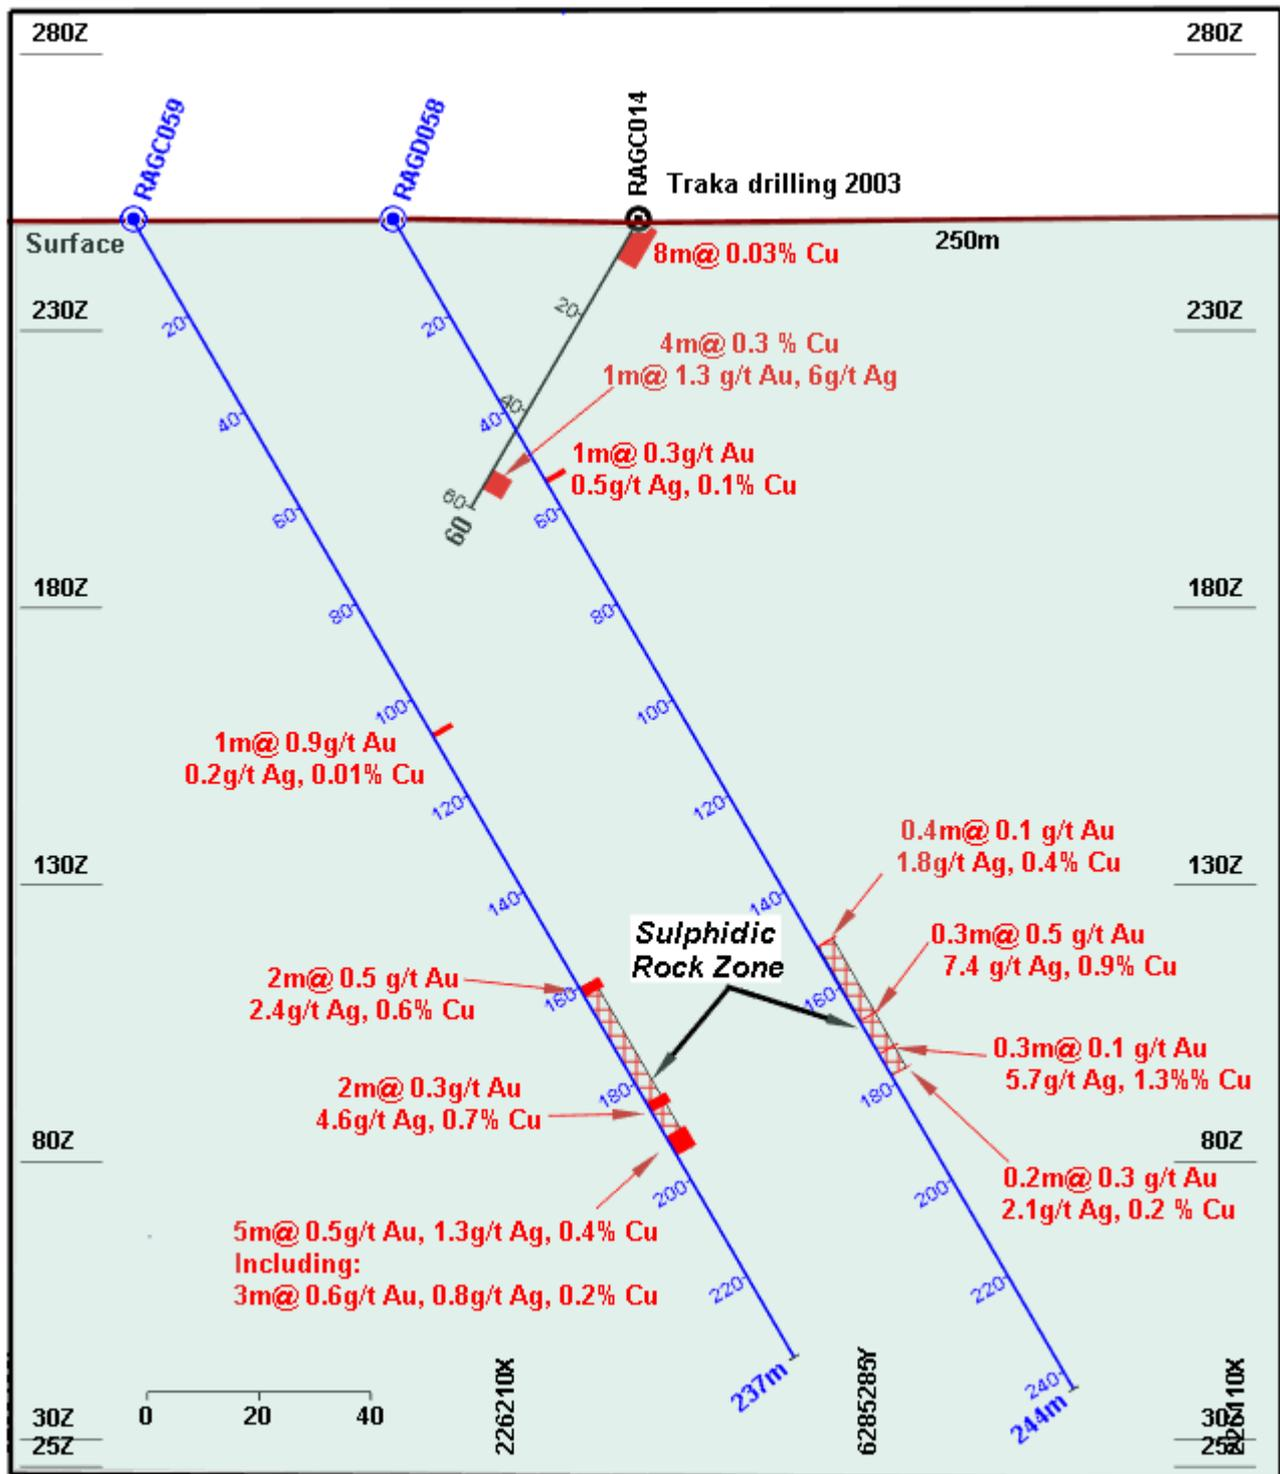

Figure 1. Cross-section through the Revelation Prospect showing drillhole RAGC058 and RAGC059 and Traka's drillhole in 2003
Laboratory assay results for drilling completed at the Revelation Prospect have confirmed the presence of gold and copper mineralisation predominantly within a strongly altered 30-metre-wide zone of sulphidic rock between 150 and 190 metres downhole depths (1) (Figure 1 Table 1). The sulphides, including chalcopyrite (copper sulphide), pyrite and pyrrhotite, occur as several narrow stringers up to 15% and variably disseminated amounts down to 1% on the boundary and within dolerite and porphyritic rock.